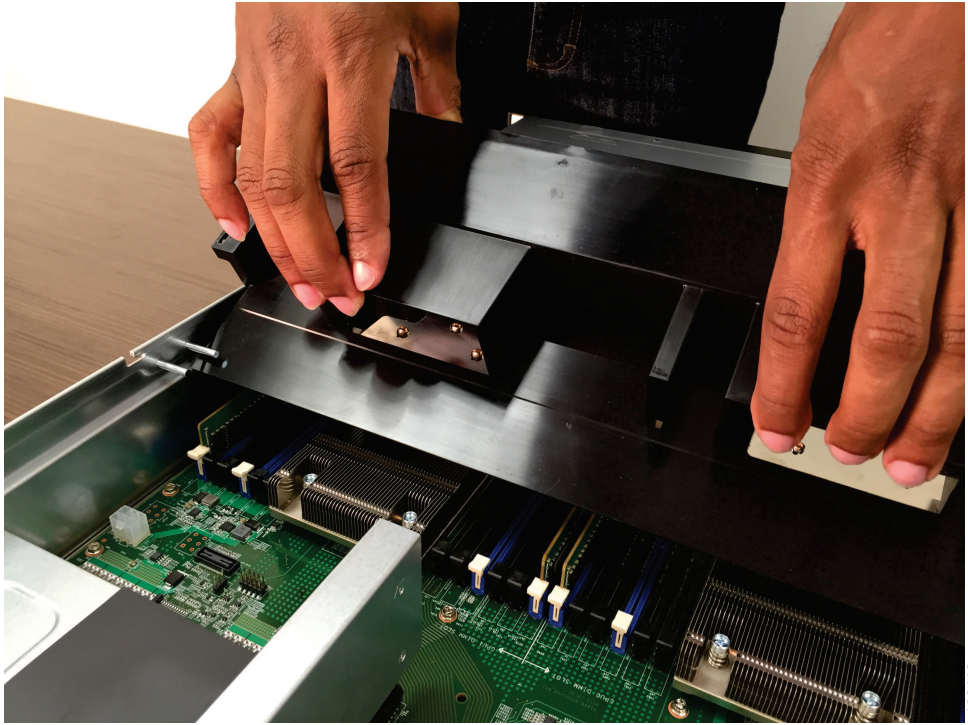

Figure 60. Aligning the air baffle
2. Hold the air baffle at a slight angle to align it within the sides of the chassis, as shown in Figure 60 on page 77.